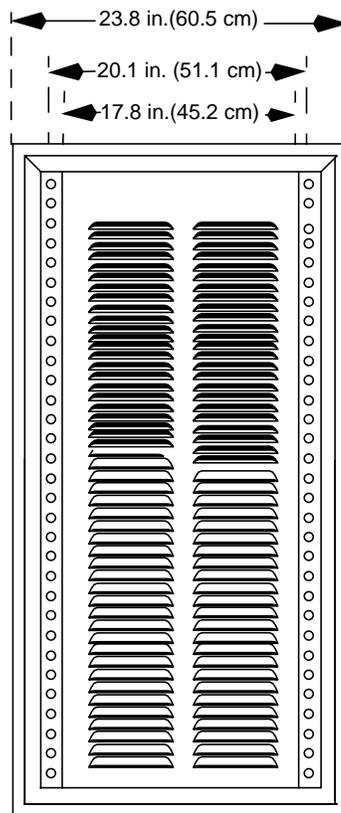

Figure 3-11: Front View of the 70-in. Station Cabinet
- Front view (see Figure 3-11)